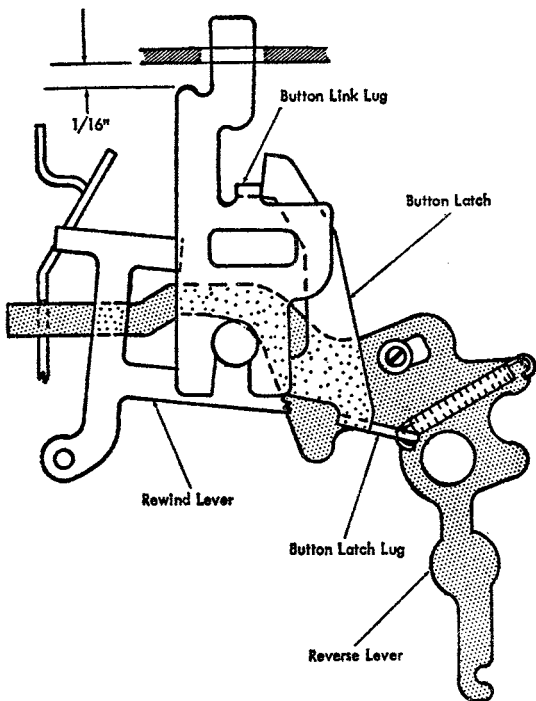

Figure 45. Button Latch Lug Adjustment
**15. BUTTON-LATCH LUG.** Latch the reverse lever and hold the drive shaft to prevent movement. Form the button-latch lug so the button latch cams off of the button link when the button link is raised to a point  $\frac{1}{8}$ " from its upper limit of travel (Figure 45).